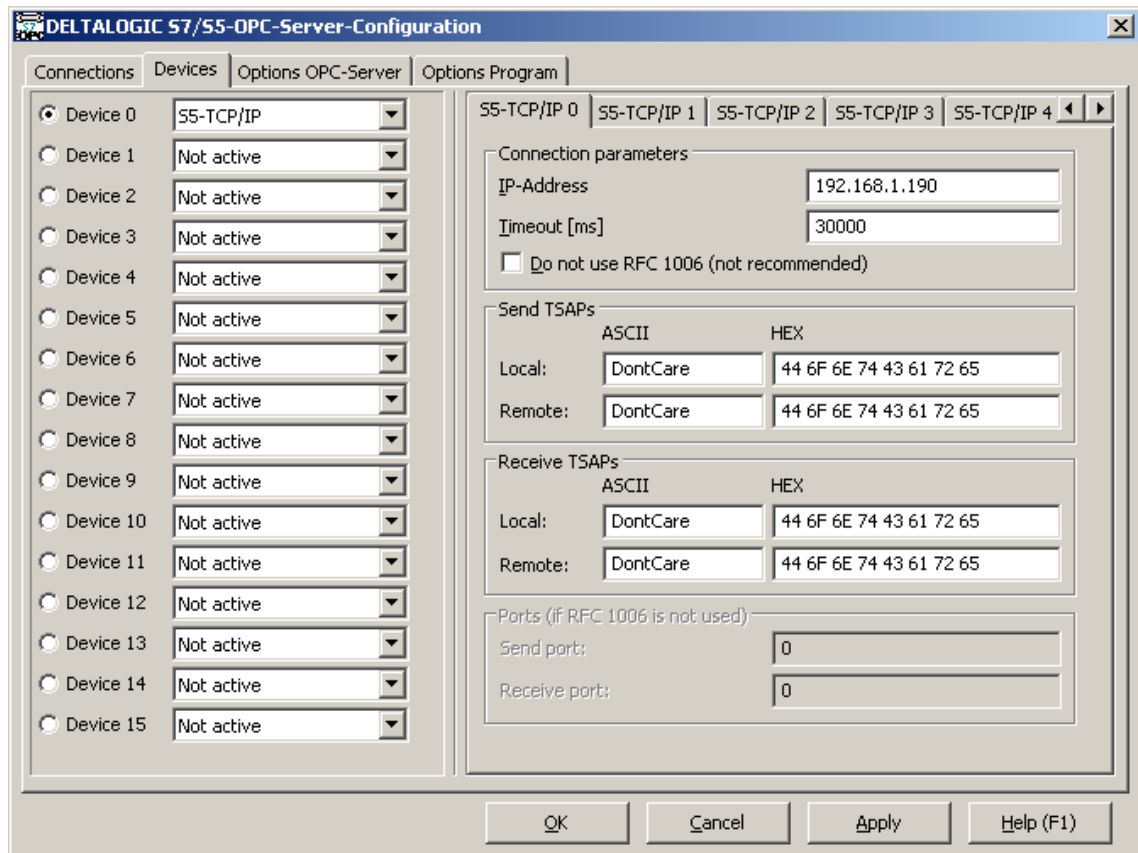

Figure 26: The program »S7OPCCfg.exe« to configure the connection
*Please consider the parameters as shown in Figure 26 and use the communication via RFC 1006.*